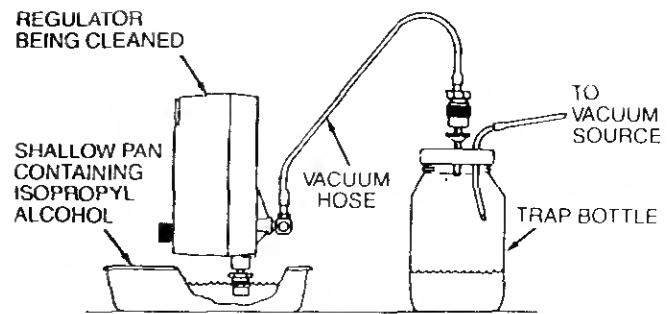

FIGURE 18
- 10.9.1 Attach a length of vacuum hose from the inlet of the Vacutron to the patient port of a large collection bottle. Attach one end of a length of hose to the source vacuum and the other end to outlet port of the large collection bottle. The collection bottle will collect the cold liquid sterilant and keep it out of the hospital's vacuum system (Fig. 18). Place the patient port of Vacutron into a shallow pan containing the cold liquid sterilant (such as Cidex).
- 10.10.1 Attach a length of vacuum hose from the inlet of the Vacutron to the patient port of a large collection bottle. Attach one end of a length of hose to the source vacuum and the other end to outlet port of the large collection bottle. The collection bottle will collect the cold liquid sterilant and keep it out of the hospital's vacuum system (Fig. 18).